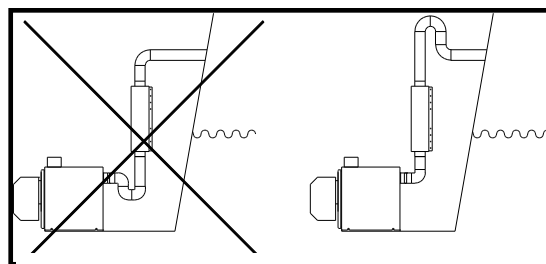

Figure 3
- Make sure that the outlet is positioned at a sufficient height above the waterline. If this is not possible use a swan neck bend in the pipe as in figure 3.